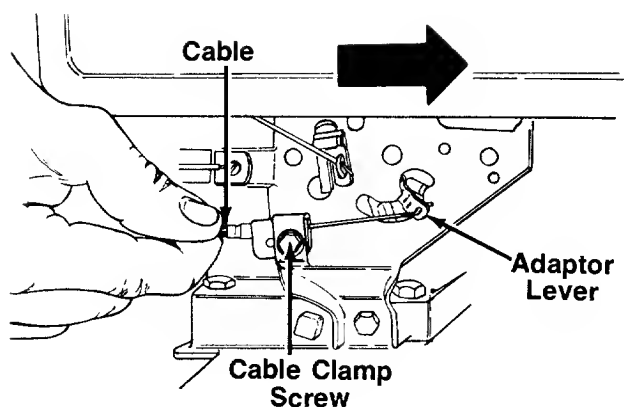

FIGURE 25.
1. Loosen the cable clamp screw. See figure 25.
2. With the throttle control in FAST position (see figure 14) and the cable connected to the adaptor lever, push the cable through the cable clamp in the direction shown in figure 25 until the adaptor lever is as far up as it will go.